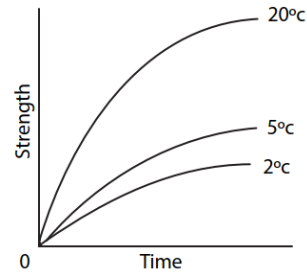

Fig.1 Effect of concrete temperature on strength.
- Low temperatures slow down the concrete's development on strength (see fig.1). Mixtures containing combination cements (GGBS / FA) are most susceptible (e.g. CIIIA (36-65%) and CIIIB (60-80%)) and harden slower during cold weather, requiring increased strike time. Review the concrete mixture, can it be adjusted to increase its hardening rate \rightarrow %cement/admixtures?